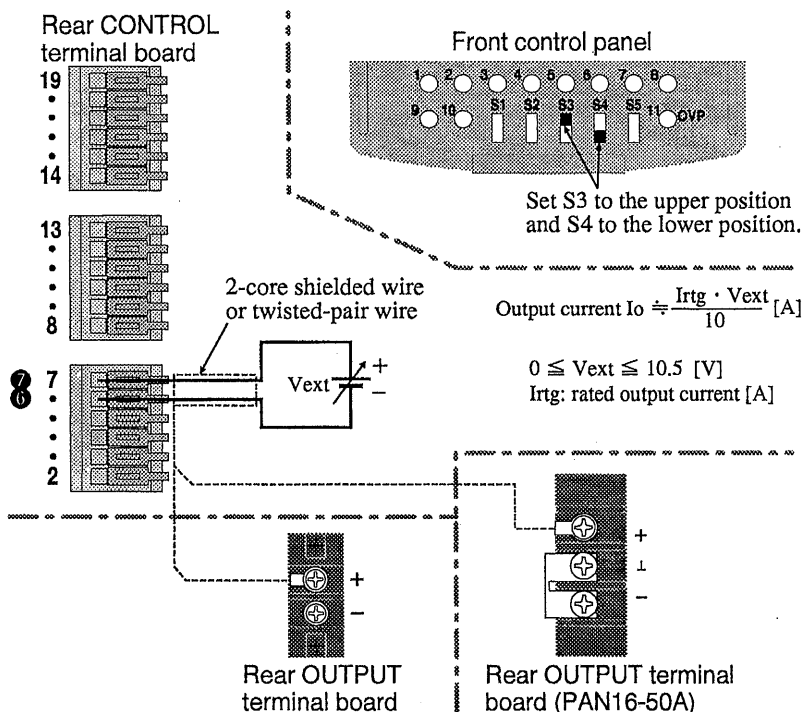

Fig. 3-9A Connection and setup for output current control using external voltage
- ④ Set the control switches S3 and S4 to the position as shown in Fig. 3-9A.
- ⑤ Connect the voltage source across the control terminals ⑥ and ⑦ as shown in Fig. 3-9A.